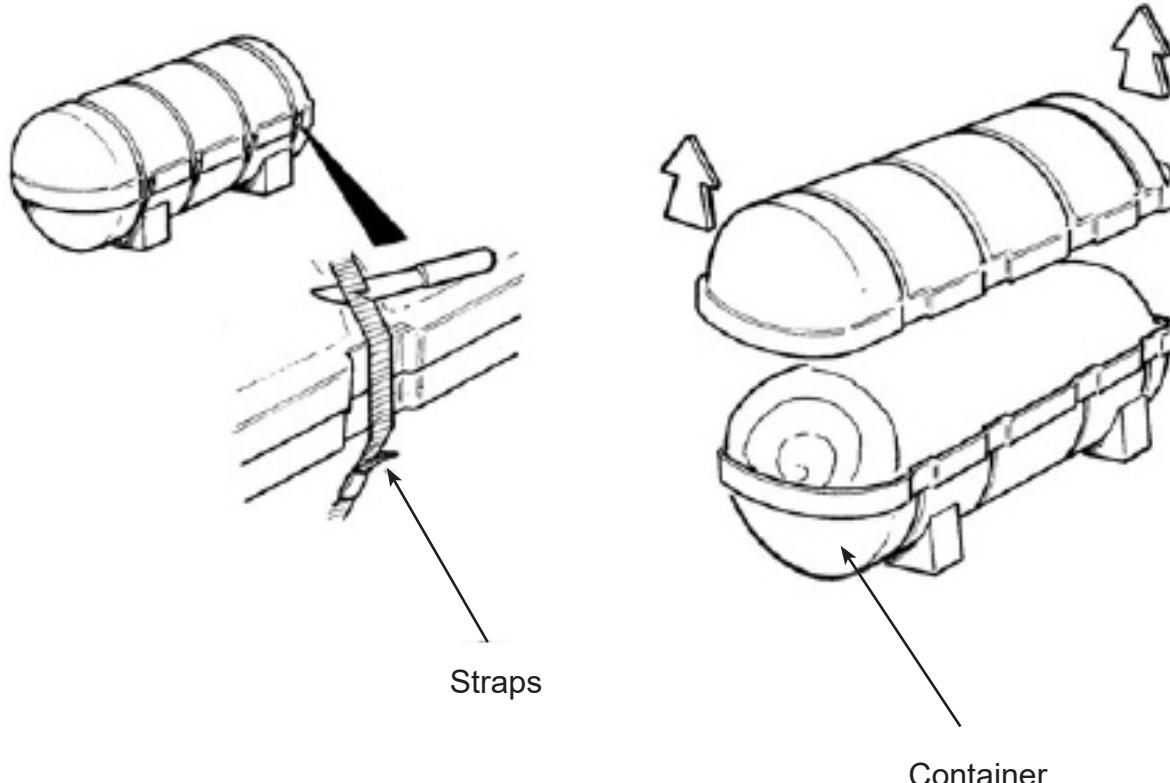

FIGURE 202
1.2.4 Cut each strap between the seal and the position where the strap is held. Refer to FIGURE 202.
3.1 Container and liferaft (FIGURE 202)
- 3.1.2 Cut the straps which hold each half of the container together as given in the safety procedure. Refer Step 1 and FIGURE 202.
- 3.1.3 Cut the straps of the container at the end grooves first and then the centre grooves. Refer to FIGURE 202.
- 3.1.4 Carefully lift the top part of the container. Refer to FIGURE 202.
4.1 Container and liferaft (FIGURE 202)
- 4.1.3 Cut the straps which hold each half of the container together as given in the safety procedure. Refer to **Step 1** and **Figure 202**.
- 4.1.4 Cut the straps of the container at the end grooves first and then the centre grooves. Refer to **Figure 202**.
- 4.1.5 Carefully lift the top part of the container. Refer to **Figure 202**.